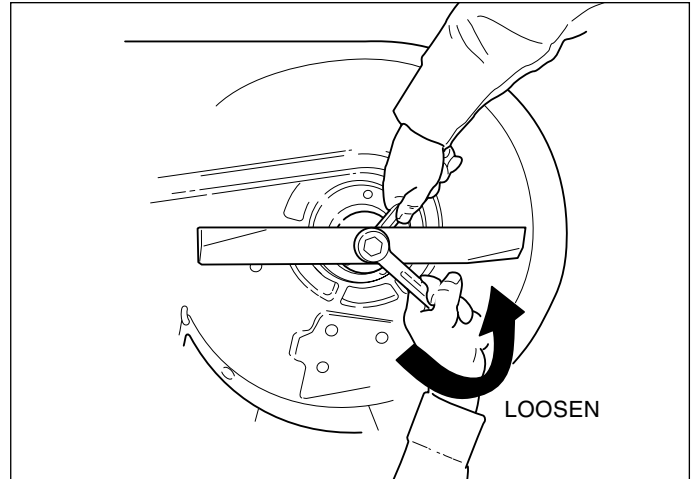

Figure 6. Removing the Blade
- To remove blade for sharpening, use a 1" wrench on the flats of the spindle shaft while removing the blade mounting bolt with a 15/16" wrench (Figure 6).